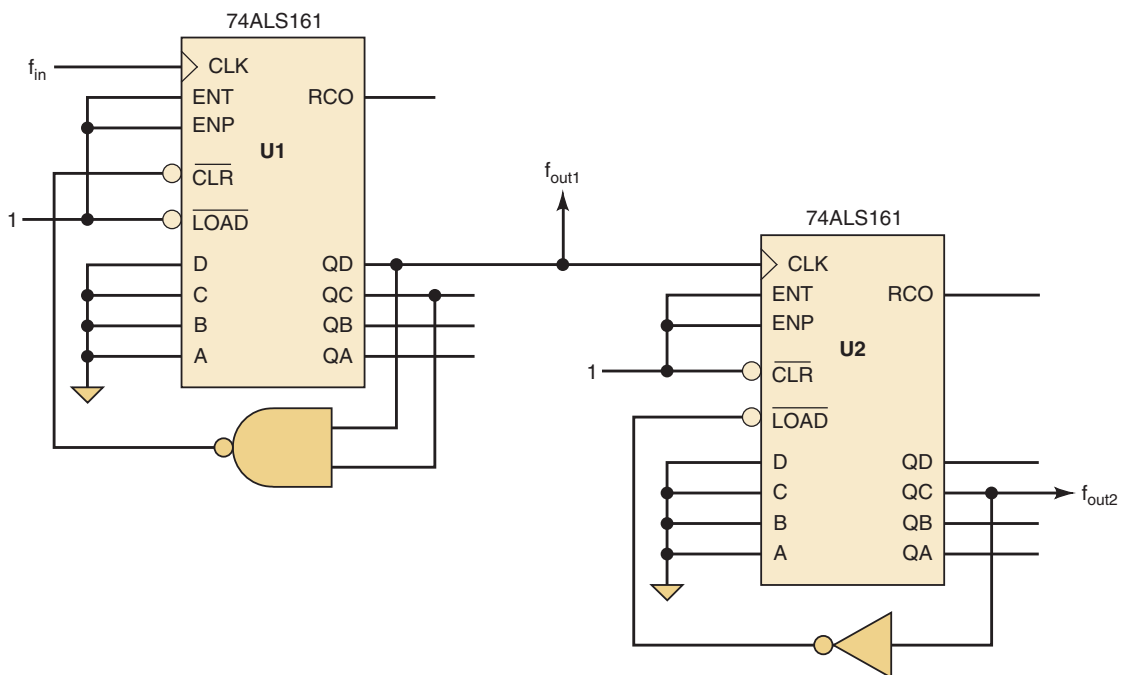

FIGURE 7-108 Problem 7-31.
- D** 7-28. Design a MOD-100, BCD counter using either two 74HC160 or two 74HC162 chips and any necessary gates. The IC counter chips are to be synchronously cascaded together to produce the BCD count sequence for 0 to 99. The MOD-100 is to have two control inputs, an active-HIGH count enable (EN) and an active-HIGH, synchronous load (LD). Label the counter outputs Q_0 , Q_1 , Q_2 , and so on, with Q_0 = LSB. Which set of outputs represents the 10s digit?
- B** 7-31* The frequency of f_{in} is 6 MHz in Figure 7-108. The two IC counter chips have been cascaded asynchronously so that the output frequency produced by counter U1 is the input frequency for counter U2. Determine the output frequency for f_{out1} and f_{out2} .